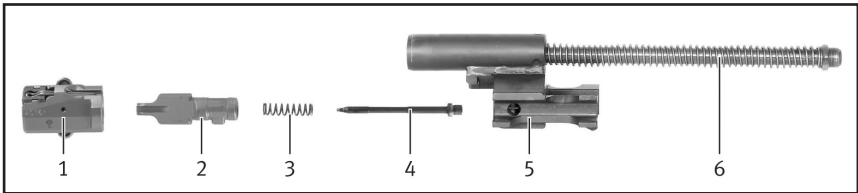

Fig. 40 – Components of the bolt group
4. Remove firing pin and pressure spring for firing pin forwards out of the bolt head carrier (Fig. 40).